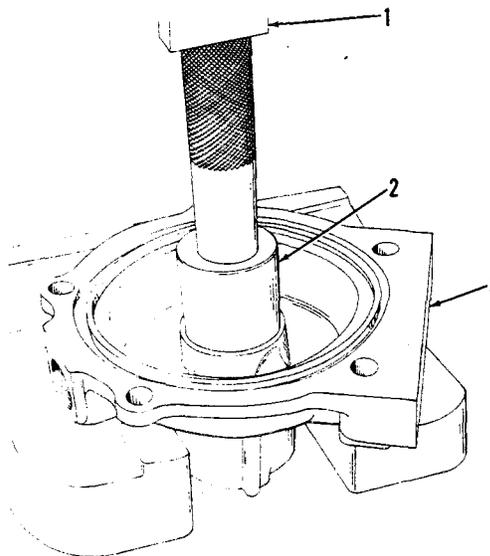

FIG. 8 INSTALLING SEAL ASSEMBLY (T-51202)
- Position pump body on press, impeller end up. Apply Number 3 Permatex or equivalent to that portion of the seal assembly which is pressed into the pump body. Position seal assembly in the pump body. Place seal installer tool on the seal and press seal into pump body, as shown in Fig. 8, making certain the carbon sealing surface is not damaged.